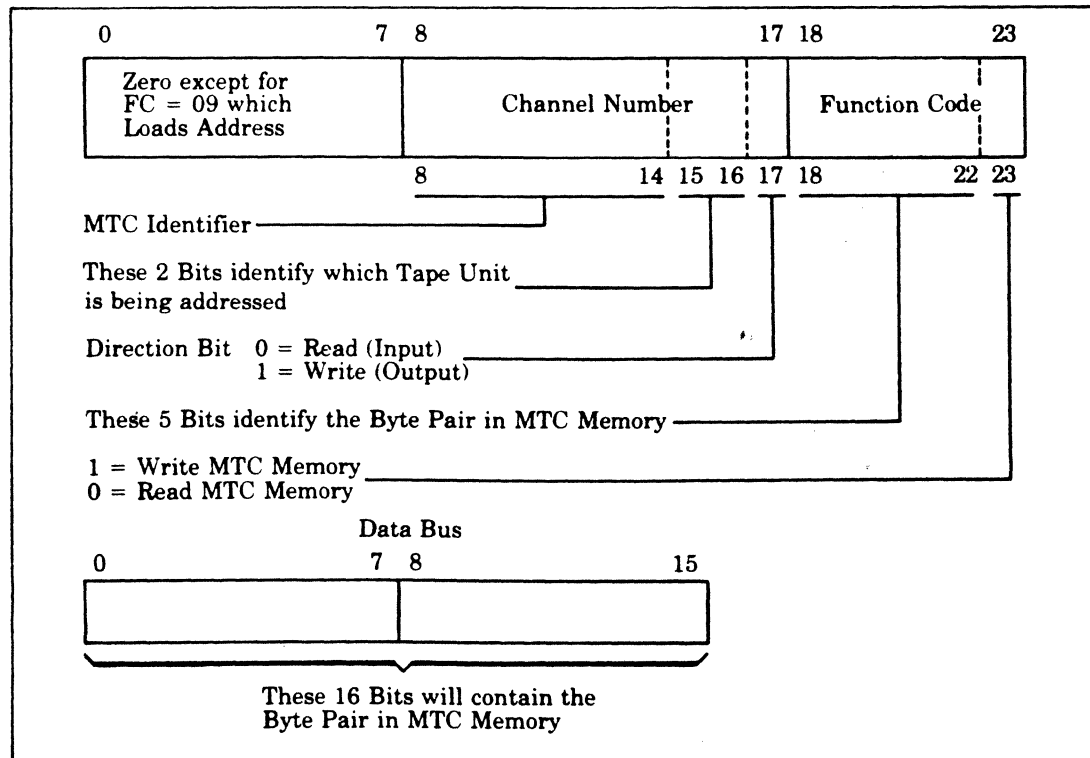

Figure A-1. Register Addressing
The central processor (CP) can read or write any register as long as the specific channel is not busy. To write into a register, an *I/O output* command is used; reading is done with an *I/O input* command. Addressing of the various registers relates to the I/O command as shown in Figure A-1.
The format shown in Figure A-1 is for a Write cycle on the bus. For a Read cycle, the memory data will be returned from the MTC on a second bus transfer.